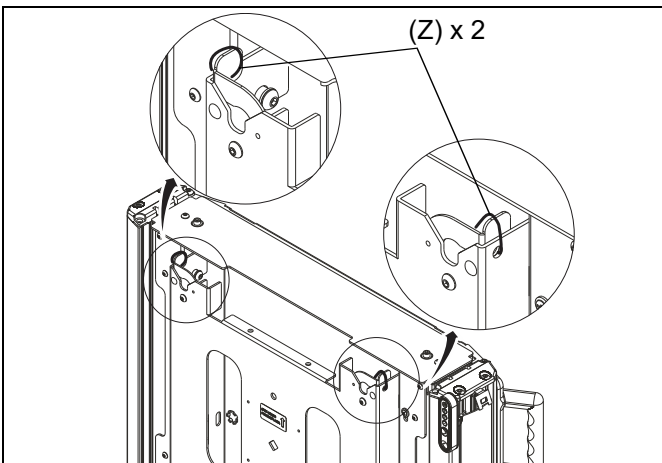

Figure 19
IMPORTANT ! : Manufacturer recommends using cable ties (Z) to secure the latching flags in closed position on both sides if padlock is not being used. (See Figure 19)